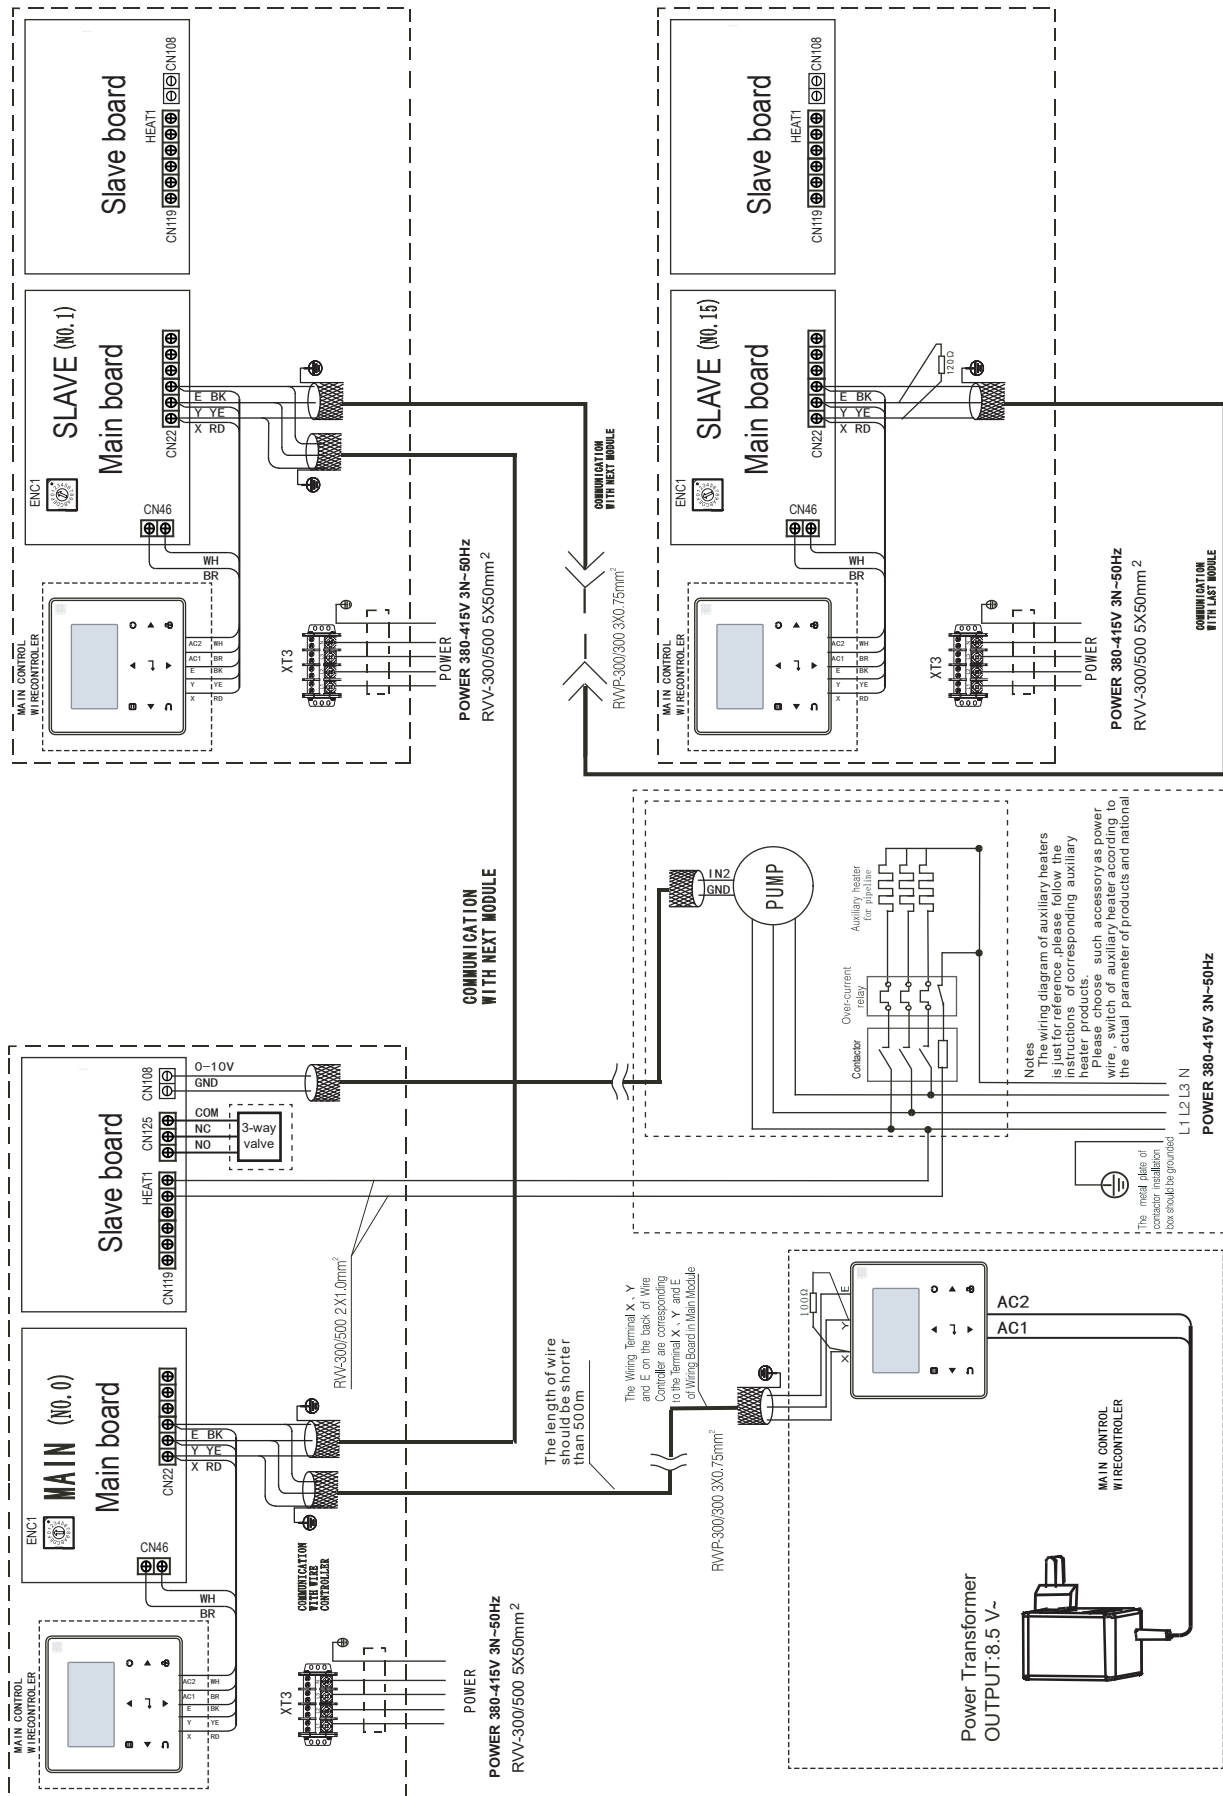

Fig. 8-18 Networking communication schematic of main unit and auxiliary unit for 110KW and 140KW
c) Units must with a main unit controls (Please see Fig. 8-18 for the controls wiring diagram).